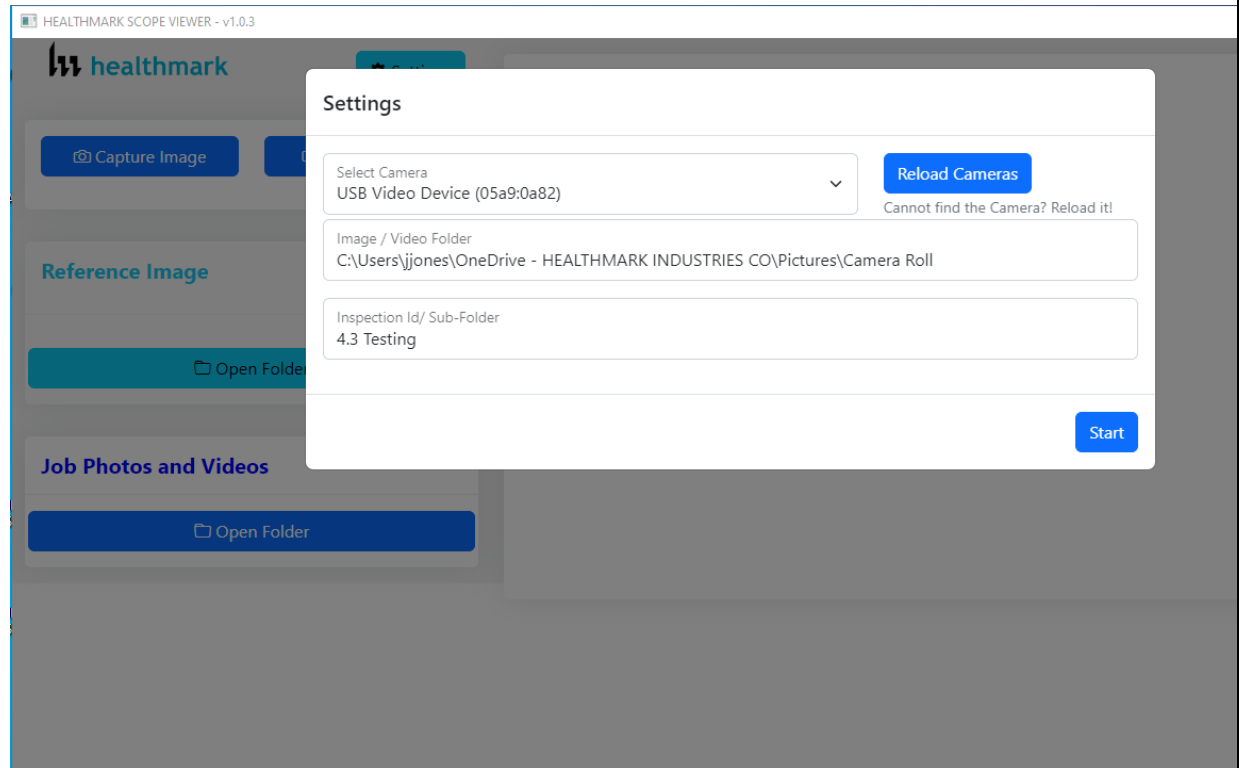

Figure 1
4. The settings will automatically open, and you will be prompted to select a camera (**Fig 1**).
3. *Settings Button*: Click to pull up screen in **(Fig. 1)**. For selecting camera and file location.